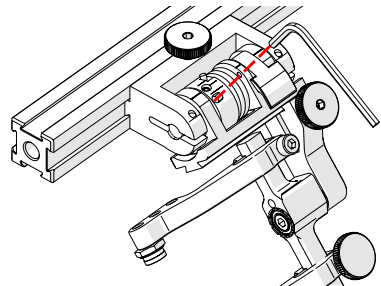

Fig. 77 - Unlatched position
3. Insert the short arm of a 3 mm hex wrench into the 3 mm slot (Fig. 77).